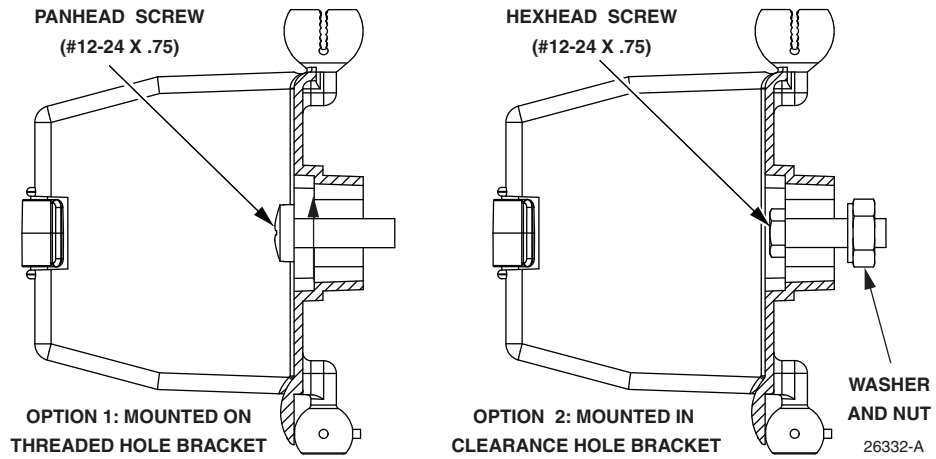

Figure 11. Securing Universal Trough to Rack
- Secure the universal adapters to the mounting brackets or directly to the rack using the hardware provided, as shown in Figure 11.